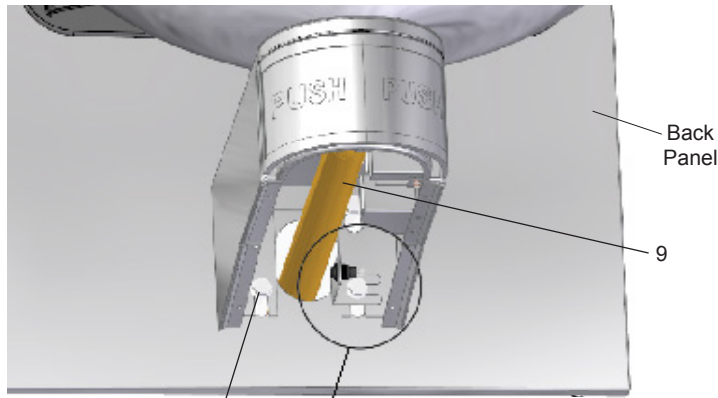

Figure 4
7. **Install reset switch** for bottle filler (Fig. 4). Snap the switch into position after locating wires through slot. Wrap up the excess cord.
8. **Install fountain** with (4) 5/16-18 HHMS (provided) (Fig. 4). Connect the 1/4" water line from the fountain to the remaining opening on the tee at the remote chiller (cut line to fit as needed), (Test fit refrigerated panel to make sure there is a tight joint between it & the main panel before fully tightening mounting screws.
- 1) To access the program button, remove the bottom cover on fountain arm (Fig. 4) by removing the bottom cover screws. Reset button is located on mounting bracket.